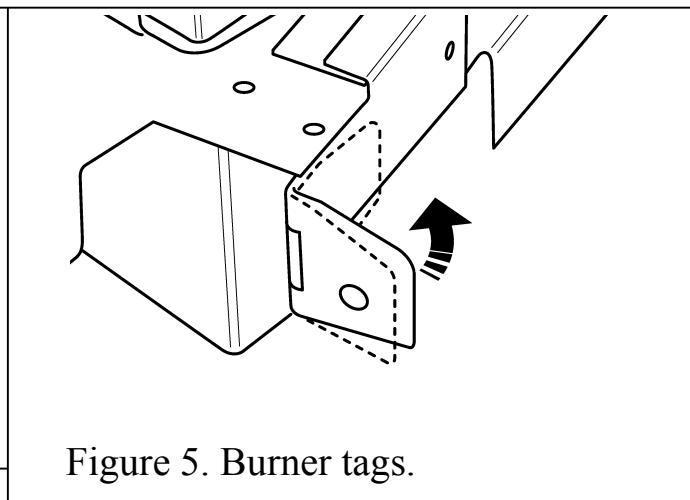

Figure 5. Burner tags.
- The two tags at the side of the burner can be folded against the side of the burner tray. This may be required for installations where the width of the fireplace opening is restricted (See figure 5)